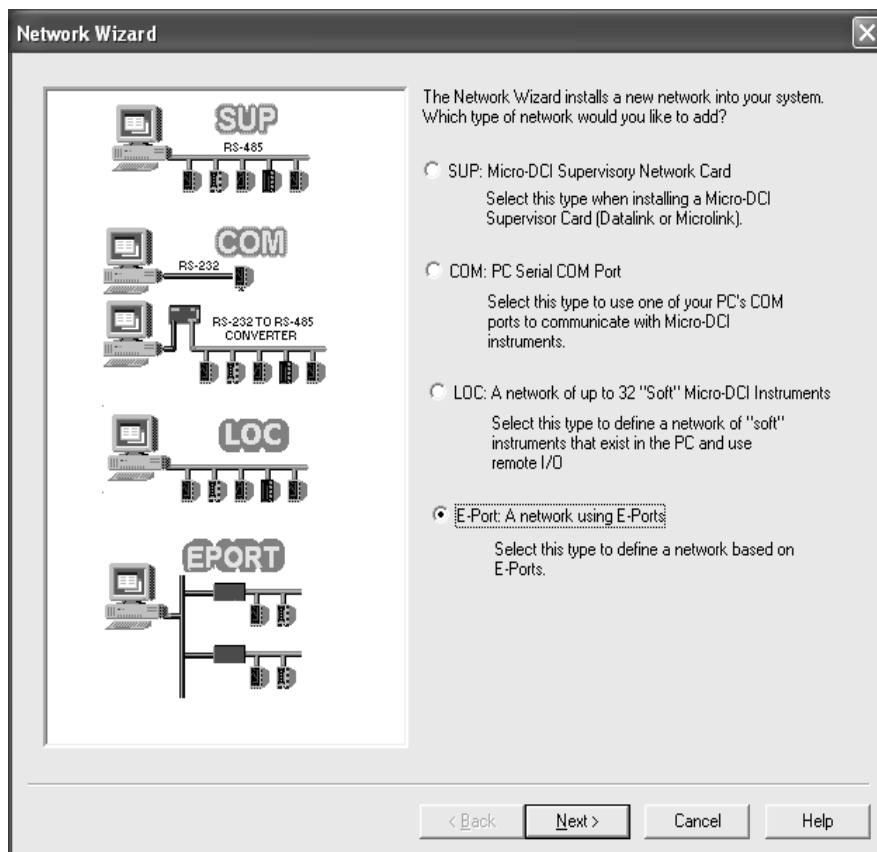

Figure 3-1. Network Wizard Initial Window
3. Select the **Add a new network** option on the menu. The *Network Wizard* window (Figure 3-1) is displayed.